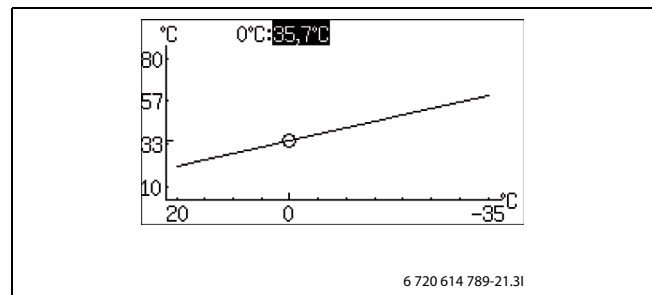

Fig. 8
- ▶ Turn the menu dial when the square is marked until 0°C is marked (→ Figure 8).